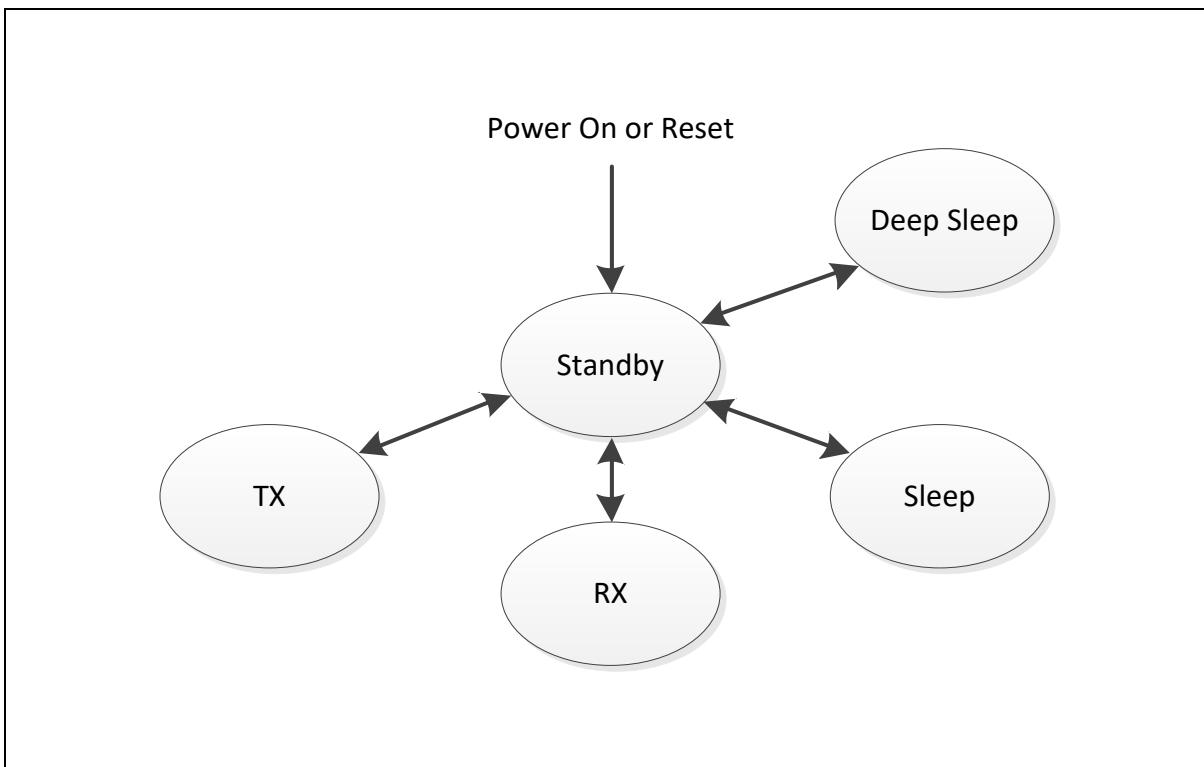

Figure 6.26-4 RF Transceiver Opearting Mode
- RF transceiver has different operating modes to save power, data reception and transmission. Figure 6.26-4 shows the state transition diagram of all operating